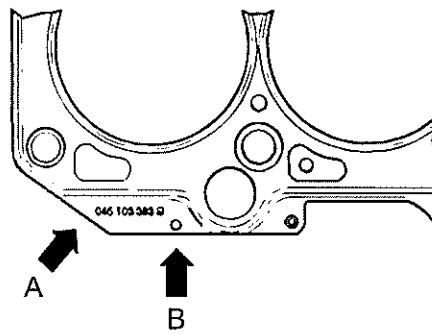

Fig 9 Cylinder head gasket markings
28 The part number is marked on the head gasket (see Fig 9 (A)). Notches/holes in the gasket are shown in Fig 9 (B).